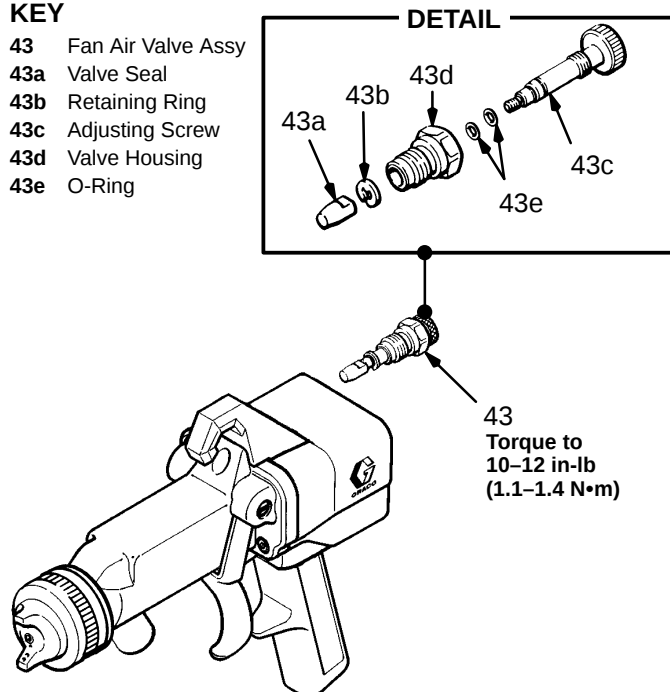

Fig 26
1. Place a wrench on the flats of the valve housing and remove it from the handle. See Fig 26.